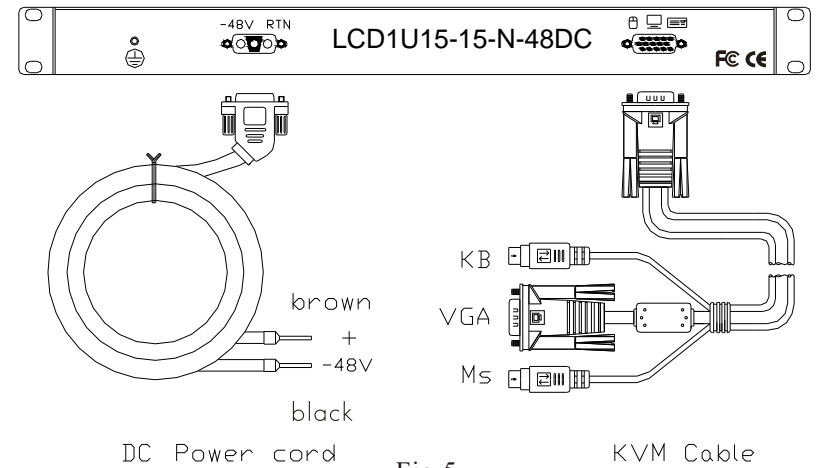

Fig.5
The KVM cable with HD-15m connector plugs in the console port. The KVM cable with VGA/KB/Mouse connectors links to computer or KVM switch. (See fig.5)
- \* The DC power cord(for LCD1U15-15-N-48DC) with 3V3 connector plugs in power socket . Very carefully to connect -48VDC source,The power cord with black pin is connected to-48VDC in ,brown pin is connectedto + .(see fig.5)